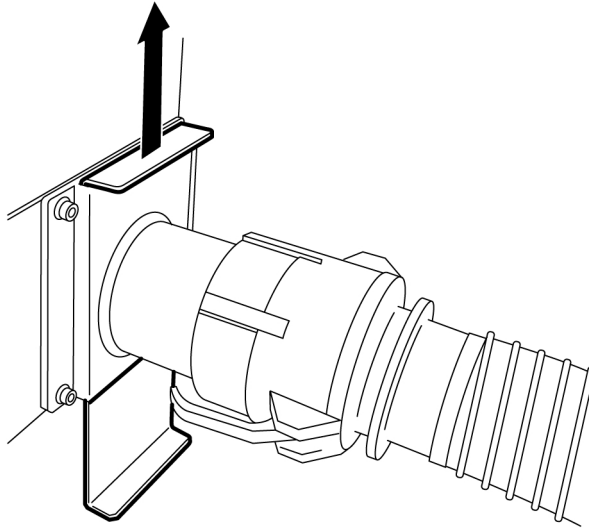

Figure 4-5. Push slide gate up
1. Move the slide gate up to its end position, see Figure 4-5, page 18. Then wait ca. 3 seconds.